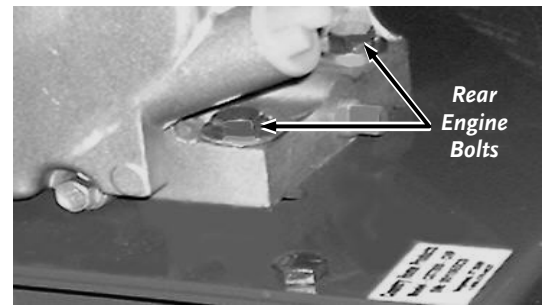

Figure 17
4. Loosen the four Engine Bolts (2 in the Front and 2 in the Rear) using two 1/2" Wrenches (**Figure 17** on page 19).